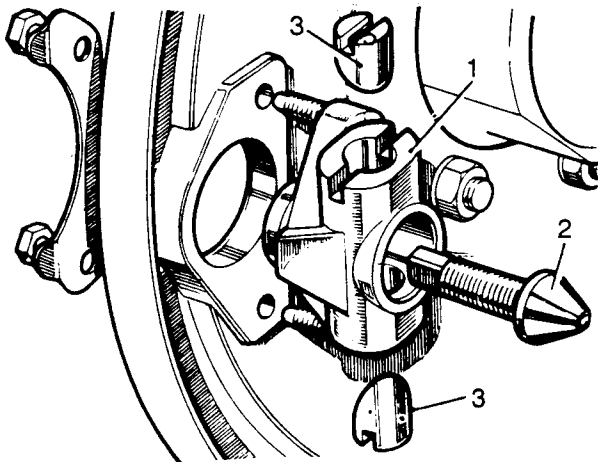

Fig K2.9
- (1) Refer to Fig K2.9. Fit the adjuster unit housing (1). Do not tighten the fixings at this stage.
- (2) Screw in the adjuster cone (2).
- (3) Grease and refit the adjuster plungers (3).